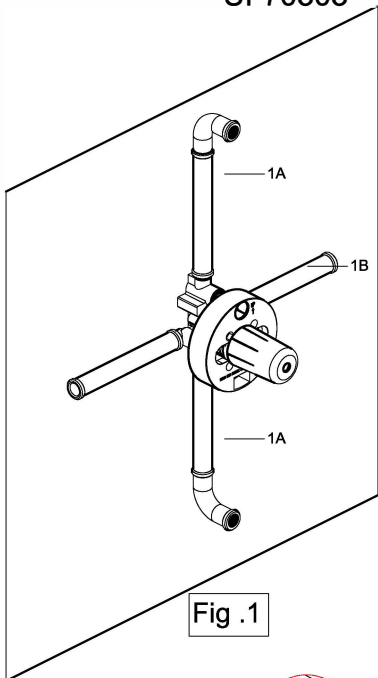

Fig .1
- Recommended component locations:(see Fig. 1)